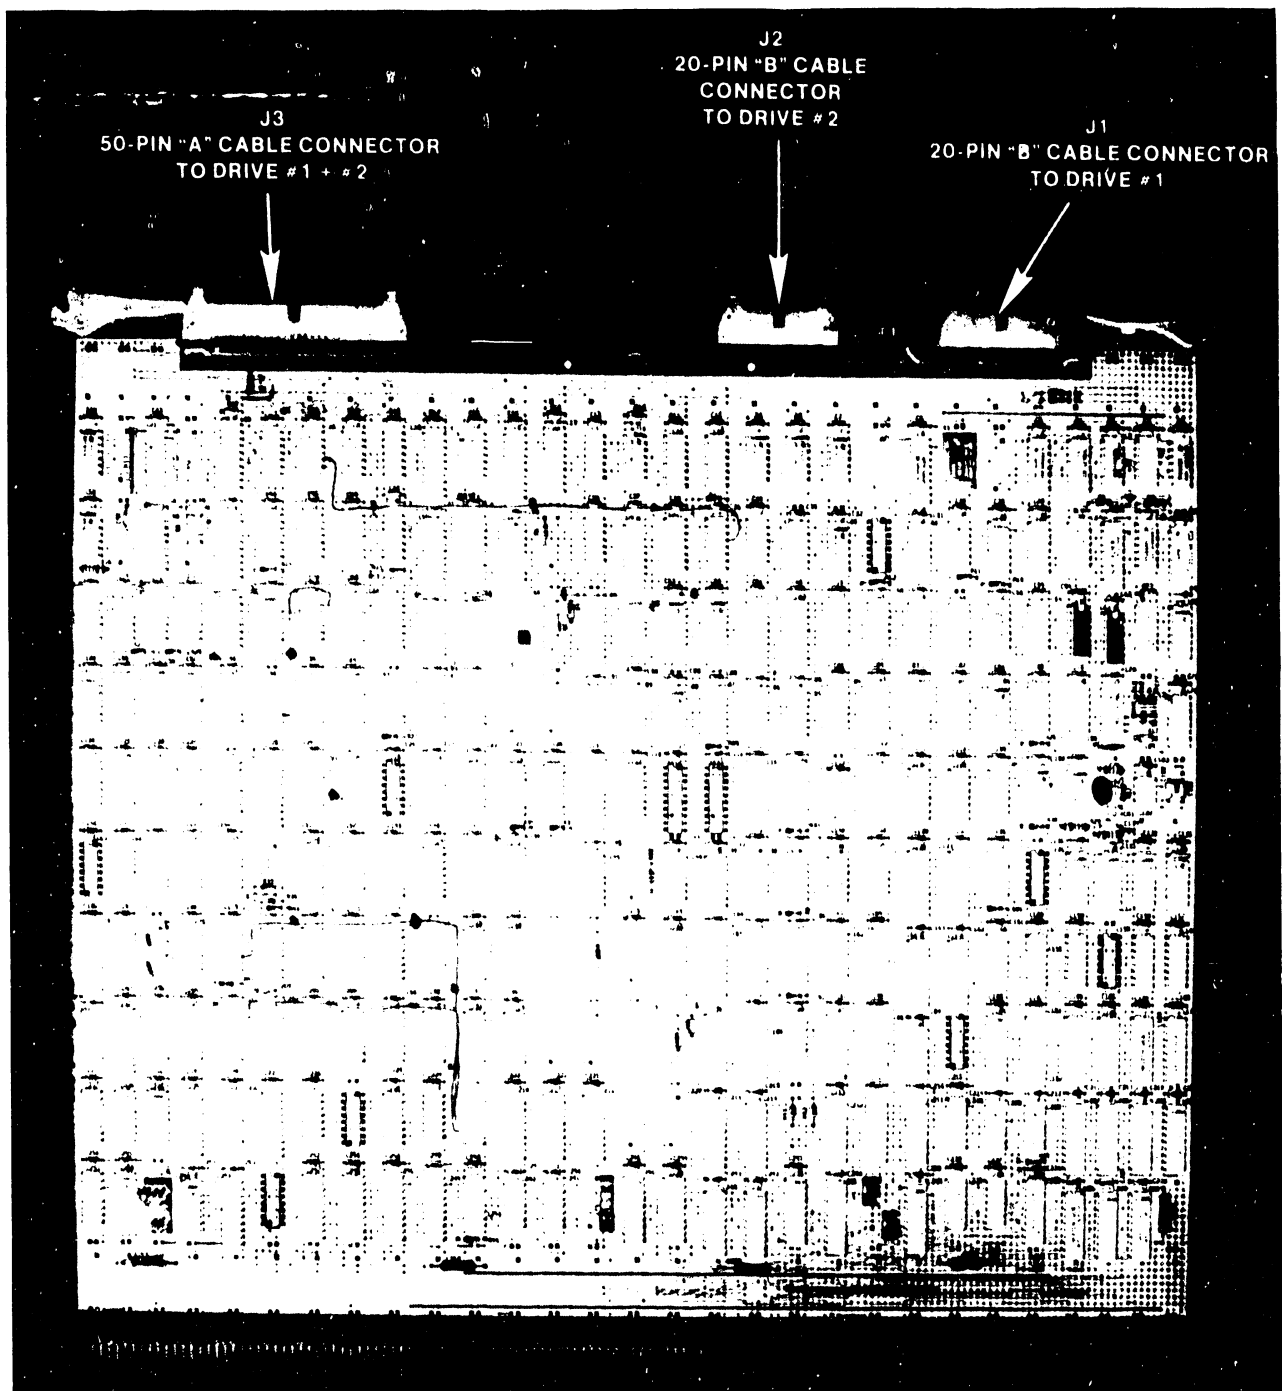

Figure 5-11. 210-8325 Quantum Disk Device Adapter
1. Remove all connectors from the top of the Quantum Device Adapter (figure 5-11) in Motherboard slot #5 (I/ODA2). Note the position of all connectors for later reassembly.